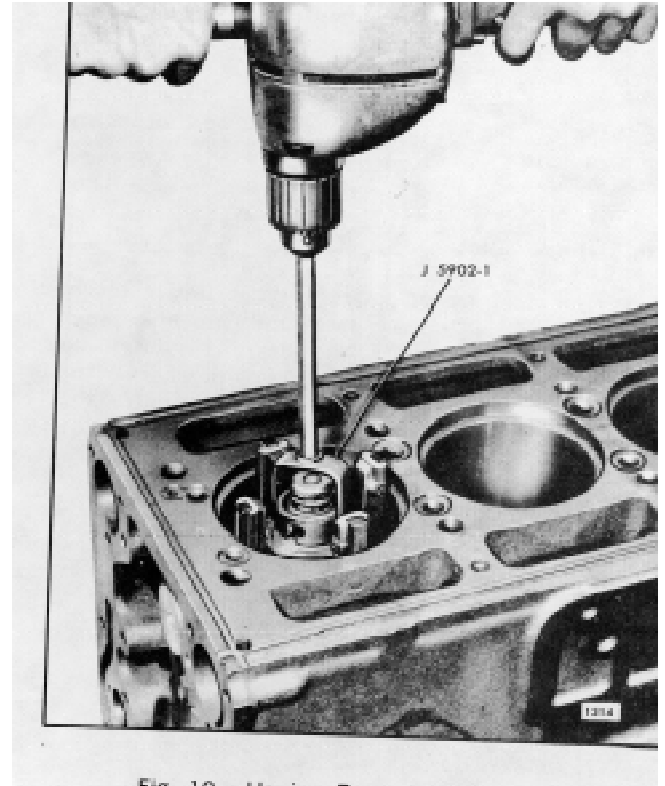

Fig. 10 Honing Bore of Cylinder Block
- b. Insert the hone in the bore (Fig. 10) and adjust the stones snugly to the narrowest section. When correctly adjusted, the hone will not shake in the bore, but will drag freely up and down when the hone is not running.